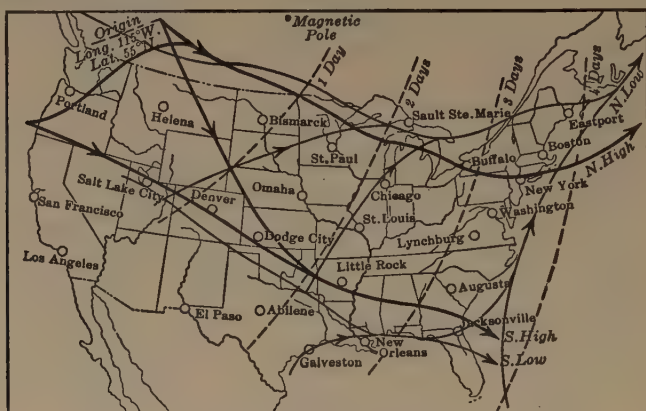

FIG. 85. — Storm tracks across the United States.
**Storms.** Storms may be local, as the thunder storm and tornado, or widespread, as the more common cyclonic storm, which usually covers an area of several hundred miles. The majority of our cyclonic storms move across the continent from west to east, usually traveling a little toward the south in the central United States, and working back toward the north in the east. (See Fig. 85.) Our cyclonic storms therefore leave the United States in a northeasterly direction. The center of this storm area has low barometric pressure, and winds blow toward it from all directions. The warmest temperature is found at about the center of the low area. The southeast quadrant of this area is, as a rule, the one that gives the greatest rainfall or snow. The northwest quadrant is the one that gives us a cold temperature. A study of the diagram of